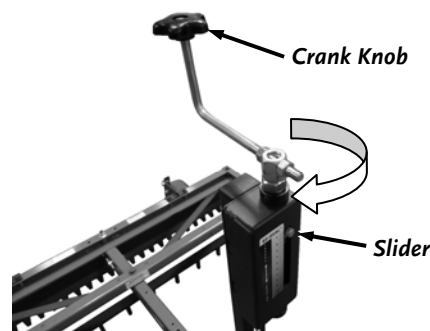

Figure 42
1. Rotate the Handle clockwise to raise the Slider to the top of the scale (**Figure 42**). This will lower the Wheels and lift the Power Grader off the ground for transporting.